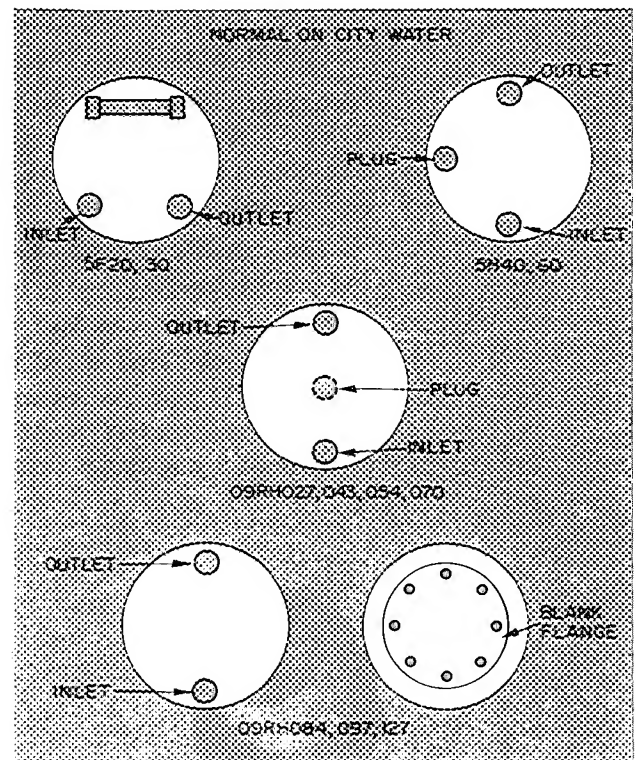
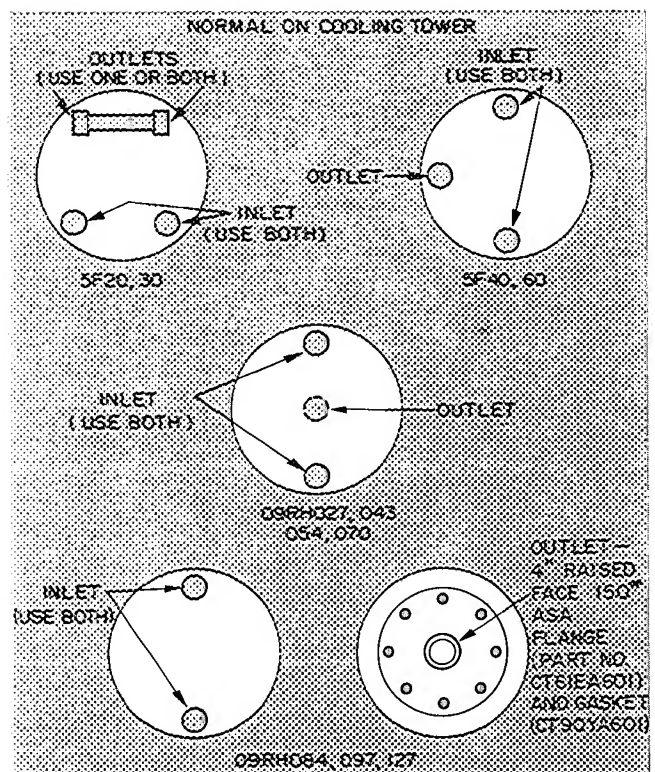

Fig. 17 - Condenser Maximum Pass Connections
Fig. 18 - Condenser Minimum Pass Connections
**Piping** - Use piping for maximum pass operation, Fig. 17, when ample water pressure is available. Use minimum pass operation, Fig. 18, for low water pressure or when cooling tower is used.